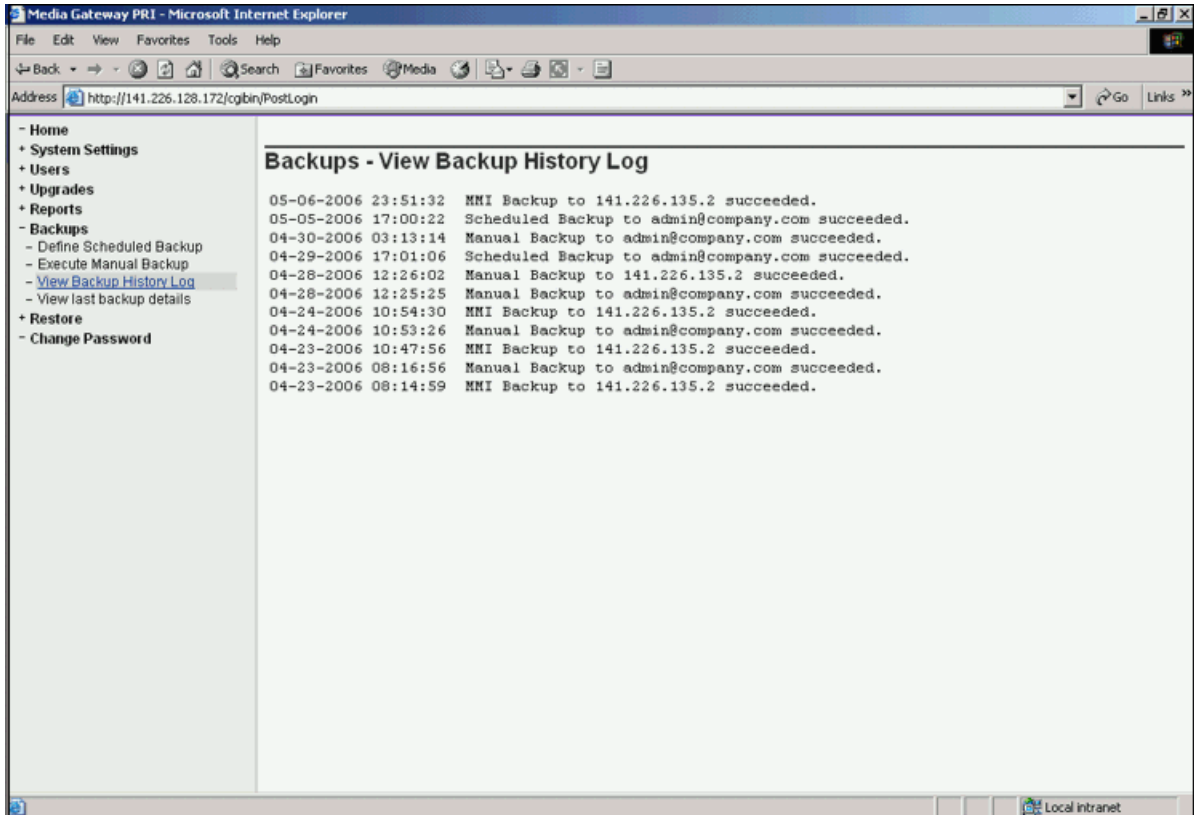

Figure 43: View Backup History Log window
- the View Backup History Log window as shown in Figure 43: View Backup History Log window on page 140